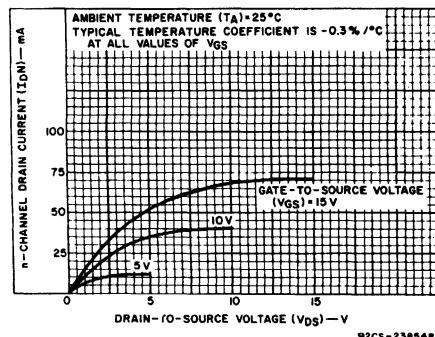

Fig. 5—Typical n-channel drain characteristics for Q output.
** If more than one unit is cascaded in single-phase parallel clocked application, t_{rCL} should be made less than or equal to the sum of the propagation delay at 15 pF , and the transition time of the output driving stage. (See Figs. 5 and 7 for cascading options.)